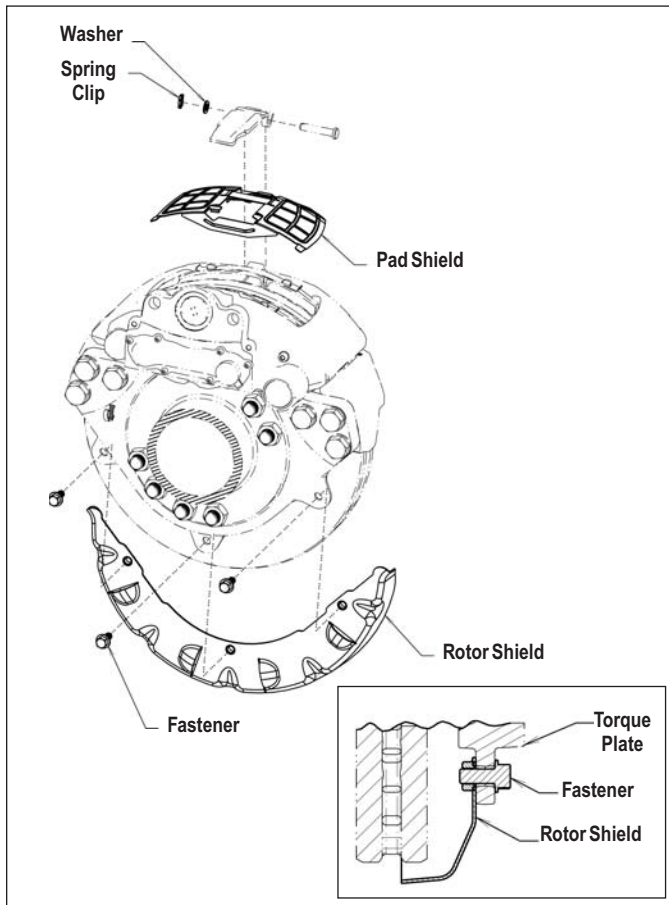

FIGURE 31 - DRIVE OR STEER AXLE EXPLODED VIEW WITH INSET SHOWING ROTOR SHIELD INSTALLATION
5.1.2 Remove and discard the spring clip and washer from the pad retainer pin. Remove and retain the retainer bar and retainer pin. Position the pad shield as shown and re-insert the retainer bar. Install the retainer pin. Use the included spring clip and washer to secure the retainer pin. Check that the pad shield is held securely in place by the retainer bar. See Figures 31 or 32.
5.1.3 **Drive or Steer Axle Rotor Shields** (See Figure 31). Position the rotor shield *between the torque plate and the rotor*. The supplied cap screws pass through the mounting tabs in the torque plate and install into the shield. Torque cap screws to 44 Ft. Lbs. (528 in. lbs.).